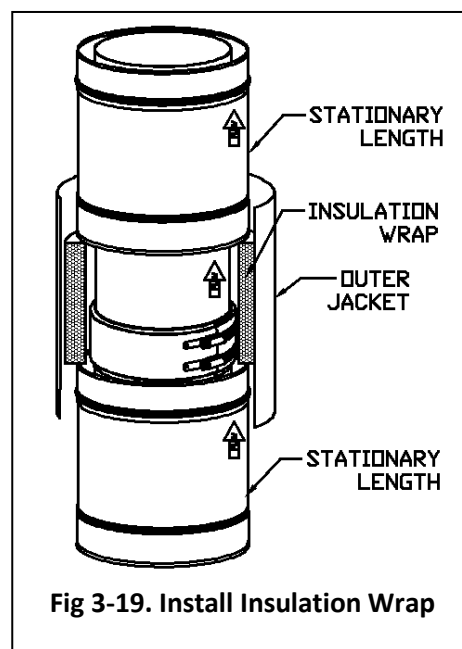

Fig 3-19. Install Insulation Wrap
11. Wrap the inner flue with provided insulation. It may be necessary to trim the insulation wrap to not interfere with the adjoining stationary length (See Fig 3-19).
12. Install wraparound style outer around outer jacket around the upper outer section of the CL and the outer of the adjacent stationary length (See Fig 3-19).